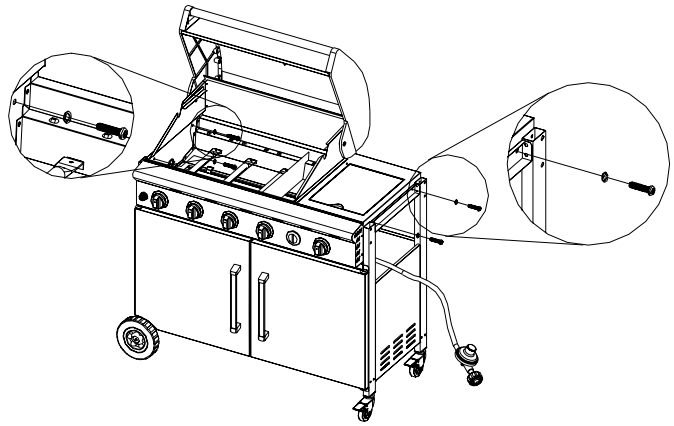

Figure 12
3. Attach the grill head to right side panel using (4) 1/4 x 3/8" Phillips head screws with (4) 1/4" lock washers. (Fig.12)